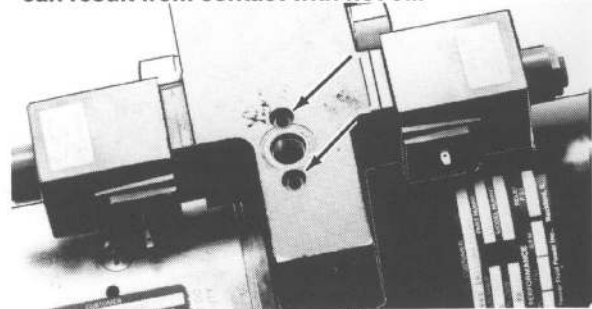

Figure 2-5
2. Remove two Allen head bolts securing the U-Valve to the Endhead and remove U-Valve. See Figure 2-5.